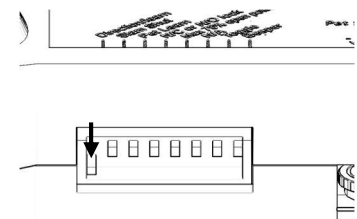

Figure 50: Turn DIP switch #1 on if door starts to open.
- If the unit starts to **open** the door, power off the unit. Turn DIP switch #1 **on** (see Figure 50), then power on the unit. The door should now start to close. Proceed to step 5.